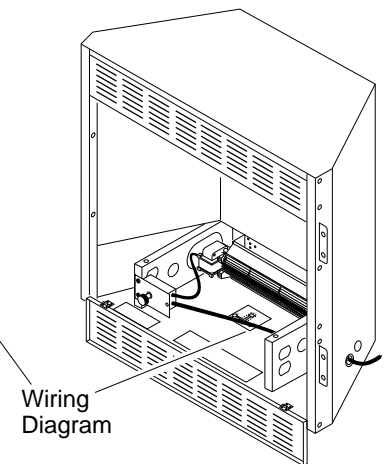

Figure 23 - Location of Wiring Diagram Decal 3" from Blower
- Peel off backing paper and stick supplied wiring diagram decal near center of firebox bottom (see Figure 23).